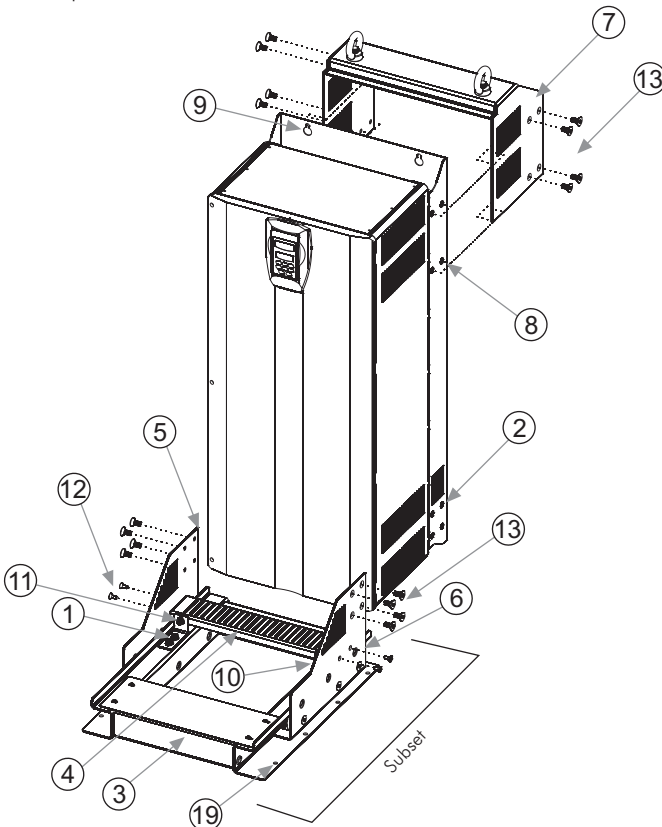

Figure 1: KME Kit Assembling Parts - Size 8 and 8E
- Step 1** Secure the left support (10) and the right support (1) to the base guide (3) for bearings by using M8x20mm (11) screws, figure 1;
- Step 2** Insert the left side guide (6) and the right side guide (5) into the base set already assembled;
- Step 3** Secure the side guides reinforcement (4) to the left side guide (6) and to the right side guide (5) by using the M6x20mm (12) screws;
- Step 4** Secure the side guides reinforcement (4) to the left support (10) and to the right support (1) by using the M8x20mm (11) screws;
- Step 5** Secure the inverter (2) to the left side guide (6) and to the right side guide (5) by using the M8x20mm (13) screws, figures 1 and 2;
- Step 6** Secure the lifting support (7) to the inverter (8) by using the M8x20mm (13) screws;
- Step 8** Secure the subset of KME Kit to the mounting base already assembled into the electrical panel, by using the M8 (19) screws;
- Step 9** Secure the inverter top (9) to the mounting support already assembled into the electrical panel.